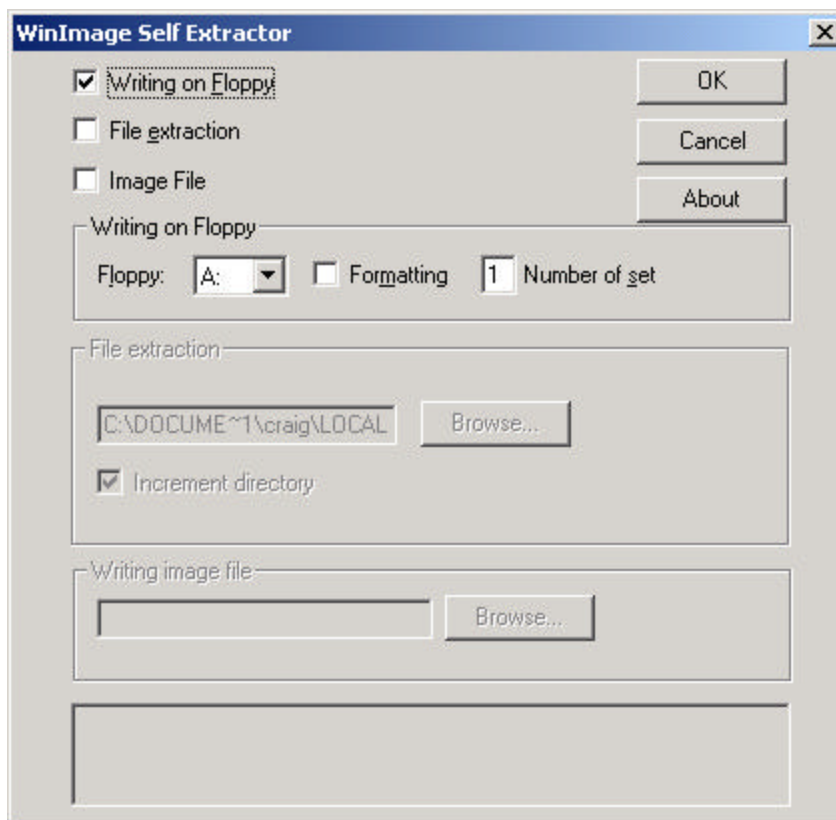

Figure 1 WinImage Self Extractor Program
2. Put a blank floppy in your PC and, from your PC, run "VTV Touch Calibration Image v2_0.exe". You should see the screen in figure 1 below.